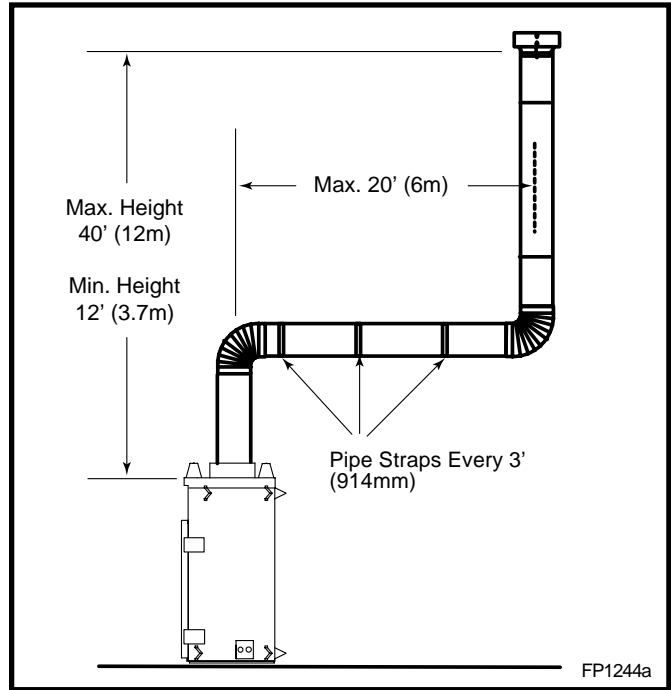

Fig. 29 Support straps for horizontal runs.
- Vertical installations up to 40' (12m) in height. Up to a 20' (6m) horizontal vent run can be installed within the vent system using a maximum of three (3) 90° elbows. (Fig. 29)
- A 2' (610mm) vertical section must be installed before any offset. A maximum of 20' (6.1m) horizontal and three (3) 90° elbows may be installed with a minimum of 12' (3.66m) vertical section above the flue collar of the unit. (Fig. 29)